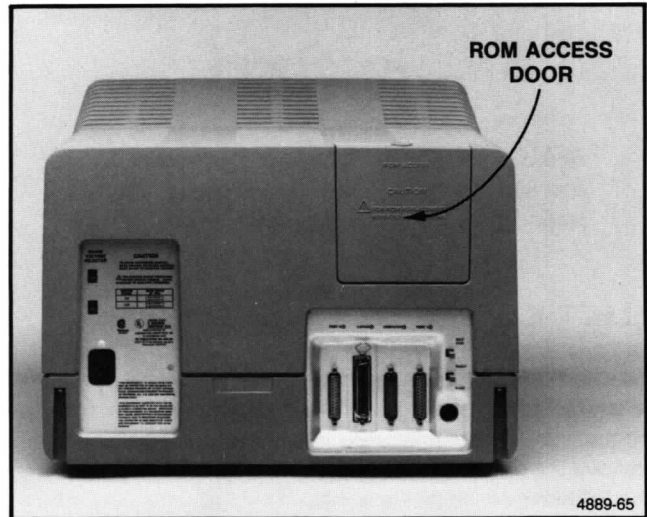
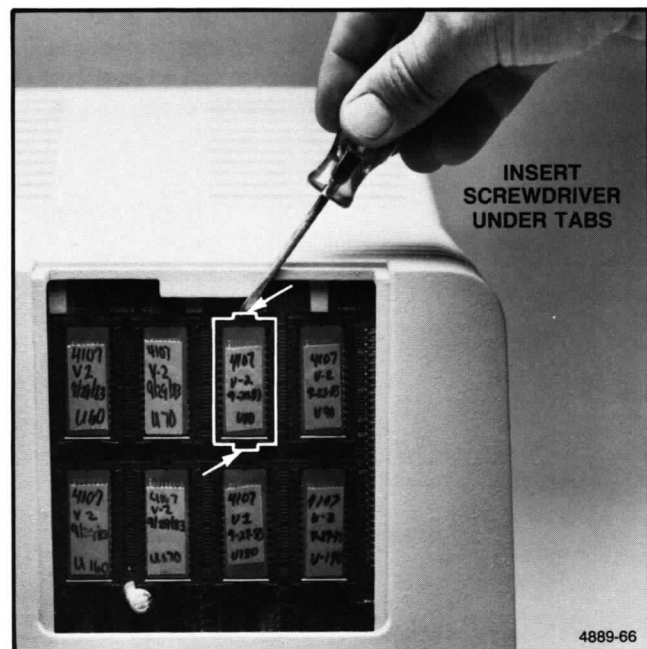

Figure B-1. ROM Access Door.
Figure B-2. Replacing the ROMs.
1. **Remove the ROM access door.** This door is located at the rear of the terminal (see Figure B-1) and may be removed by pulling it out from the top. Once the door is free, set it aside. The eight banks of ROMs are now exposed (see Figure B-2).
2. **Remove each ROM to be replaced.** Do this by using the screwdriver to pry the top and bottom of the ROM from its holder (see Figure B-2). Place the old ROMs in a safe location until operation of the new ROMs has been verified. Then you may wish to discard the old ROMs.